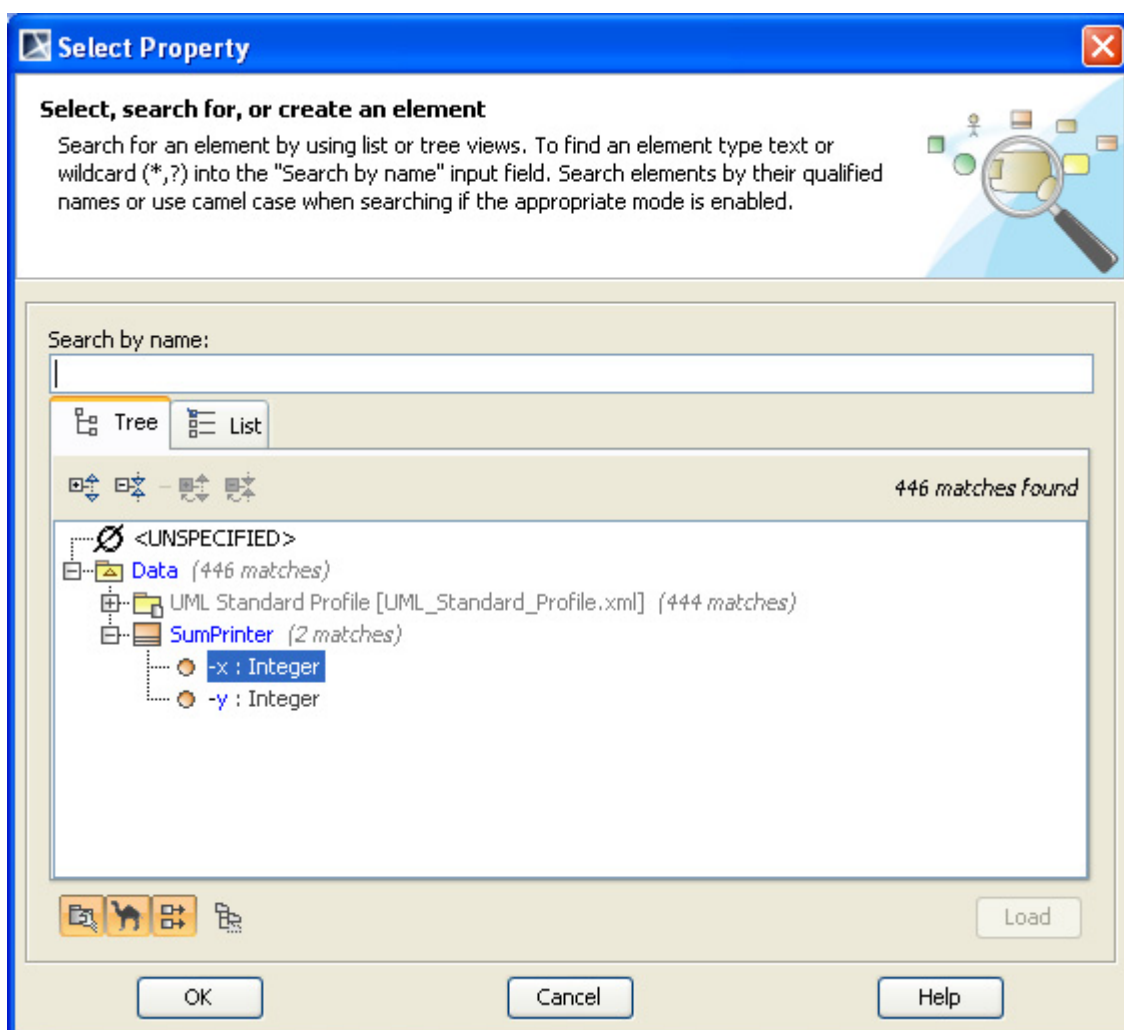

Figure 59 -- .Select Property dialog for select the property x
- Click the **Structural Feature ...** button to open the **Select Property** dialog to select the structural feature (Figure 59).